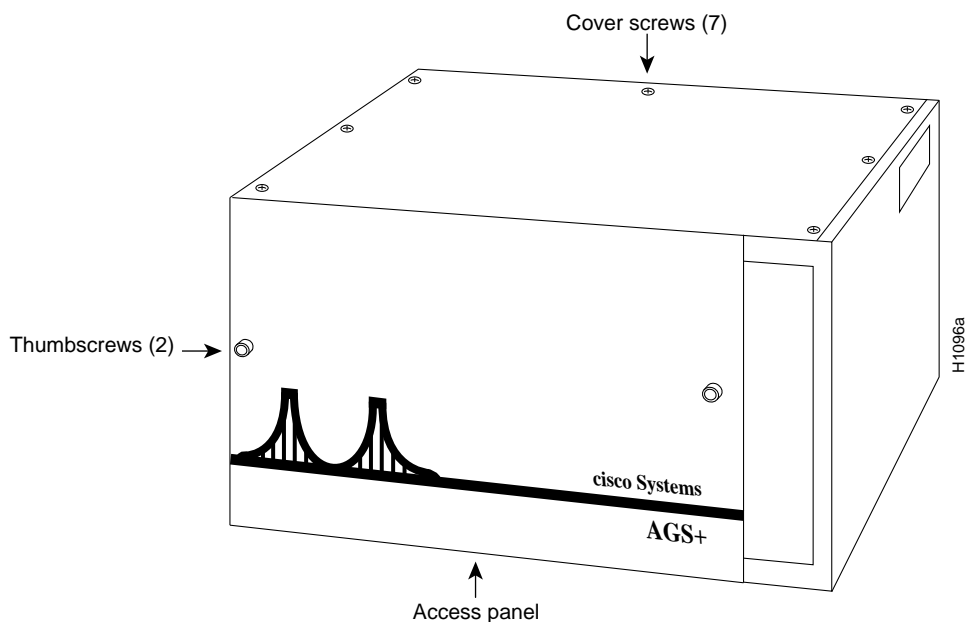

Figure 5-1 Chassis Front and Top Panels
- Step 5** To access cards in the card cage, loosen the two thumbscrews and remove the front panel from the chassis. (See Figure 5-1.) If you wish to access cards in the card cage only, skip the next step.
- Step 6** To access other system components, locate and remove the seven No. 1 Phillips screws securing the top cover. (See Figure 5-1.) Set the top cover and screws aside.